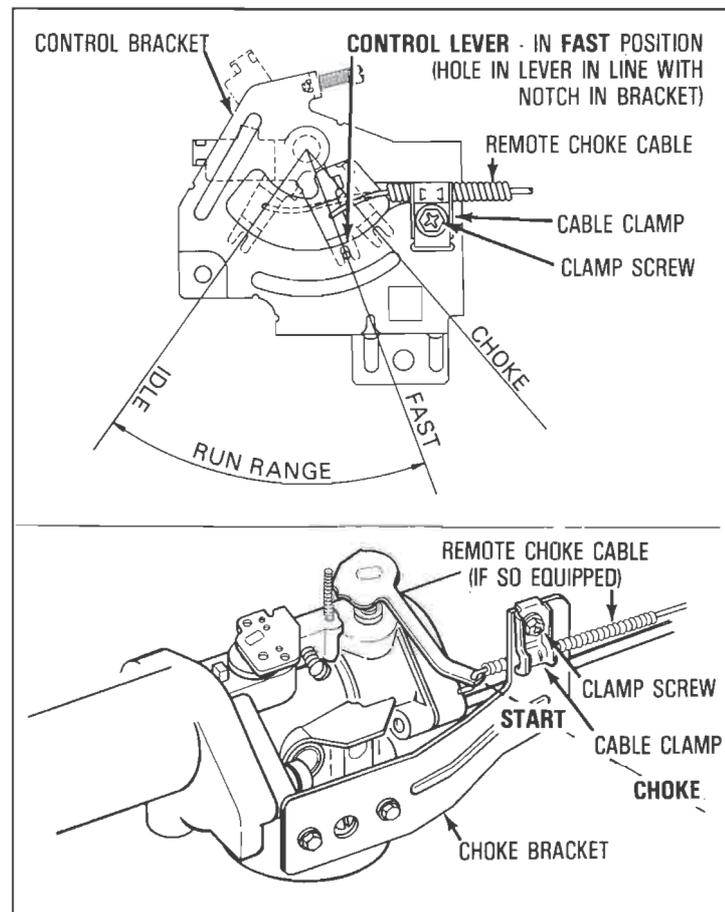

Figure 2
**NOTE:** See equipment manufacturer's instructions for control positions which correspond to engine control positions in Figures 2 and 6.
① **RECOIL STARTER:**
- Move control lever (see Figure 2 or 6) or equipment control to "CHOKE" or "START".
- A. Move control lever (see Figure 2 or 6) or equipment control to "CHOKE" or "START".
### 1 REMOTE CONTROL (see Figure 2 or 6):
### REMOTE CHOKE (if so equipped see Figure 2):